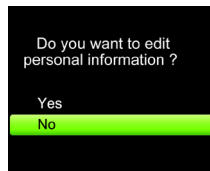
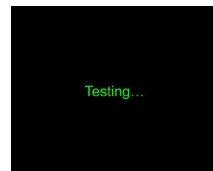
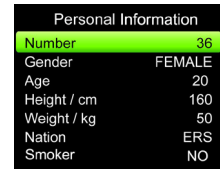

Figure 2 Selective interface
Figure 3 Testing
Figure 9 Personal information interface
- The device is in 【Selective interface】 after turn on as shown in Fig.2, press "up" or "down" key to select "No", then press "confirm" key to enter 【Testing】 interface as shown in Fig.3. (Note: If select "Yes", it will enter 【Personal information】 interface to edit personal information, after exit, it will return to 【Testing】 interface.)
Under 【Menu】 interface, select "Personal information" to enter its interface as shown in Fig.9, in which user can edit patient information (Note: Under 【Selective interface】 as shown in Fig.2, if selected "Yes", you can enter 【Personal information】 interface also.).